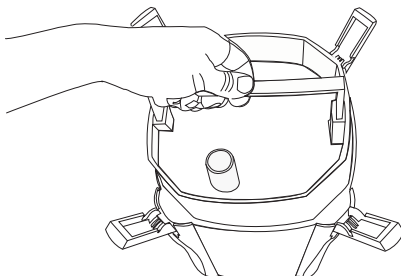

Fig 3
5. Remove the filter grid and the filter media baskets from the canister. Fig 3